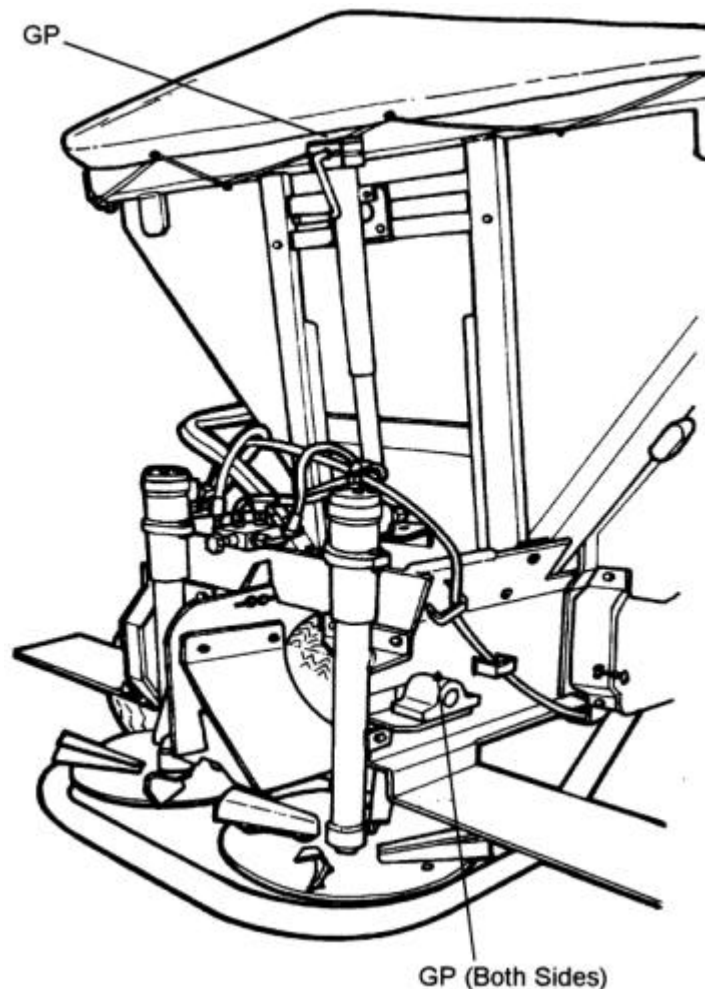

Figure 10 – Grease Points
6. Check the machine has been greased. Refer to Fig 10 and 11 for the position of the grease points.